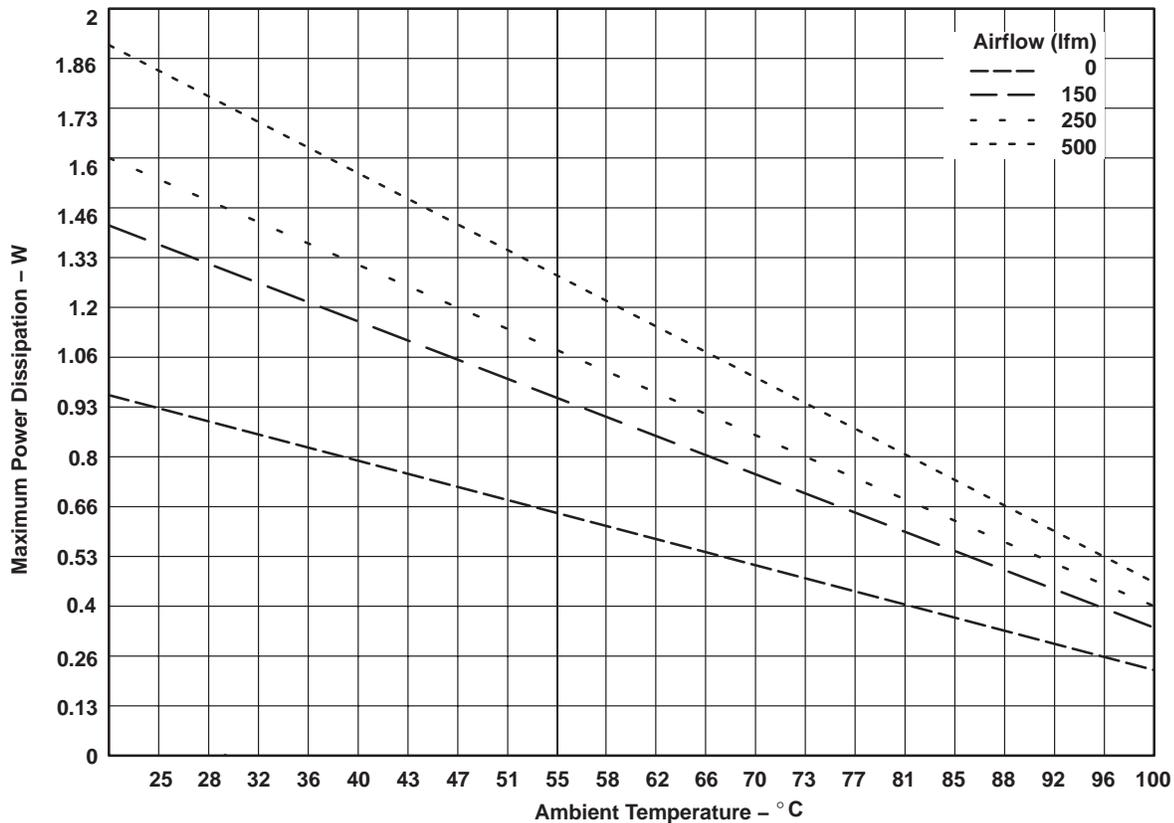

Figure 3. Derating Curves for 16-Pin SOIC (DW) Package
In Equation 2, by varying the ambient temperature at a given airflow, a derating curve can be developed for each package. By using the thermal resistance value of the package at different airflows, a derating curve can be developed for each airflow. A typical set of derating curves for the 16-pin SOIC (DW) package is shown in Figure 3. The data for the 16-pin SOIC (DW) package (θ_{JA}) used to calculate the curves was generated using a JEDEC 1s PCB design.